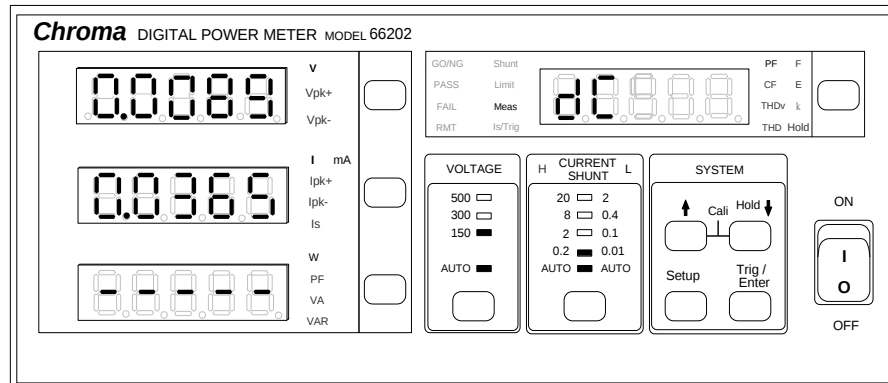

Figure 4-28 Setting dC Parameters
2. In the special measurement display a blinking pattern will appear. Use **↑**, **↓** to select dC and the input signal will appear on the left for the measured voltage and current with DC component only (the AC component signals are filtered out) as Figure 4-28 shows.